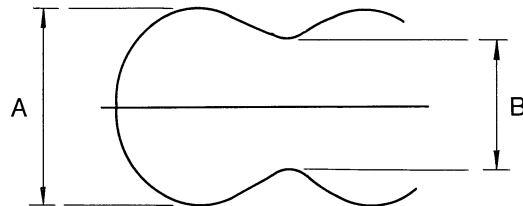

Figure 4-17. Modulation Check Waveform Diagram
- (1) Seek to track 79, then write and read using 2F and the inspection disk.
- (2) Check the read waveform (see step 6 in section 4.5.11).
- (3) Check that  $[(A-B)/(A+B)] \times 100 \leq \pm 8$ ; see the Figure 4-17 for the definitions of A and B.